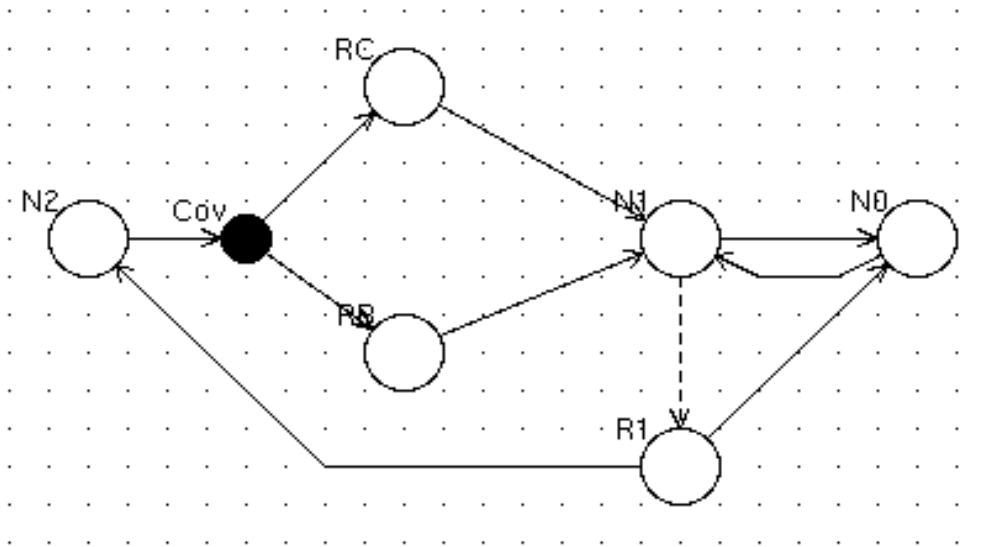

Figure 28: The completed model.
- Step 18:** Repeat step 17 for each transition. If you click at a transition originating in a branching state, the “Parameters...” dialog will contain a field **Probability**. In this field you have to enter the probability of the transition (“c” or “1-c” in our example). The drawing area should now look like figure 28.